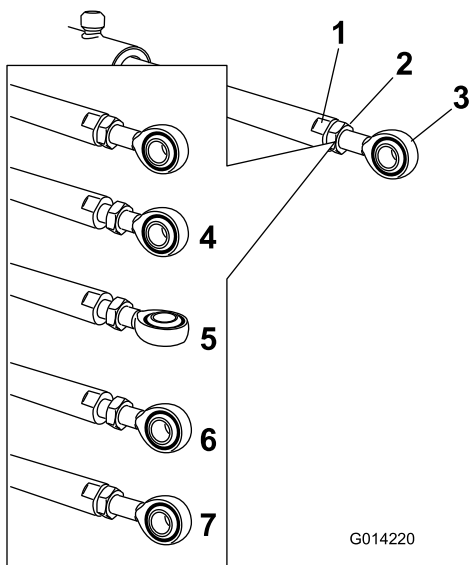

Figure 64
5. Use a wrench on the flat sides of the actuator rod to immobilize it, then loosen the jam nut to allow the eyelet rod to be adjusted (Figure 64).
- Turn the eyelet rod in the actuator rod to shorten or lengthen the extended actuator to the desired position (Figure 64).